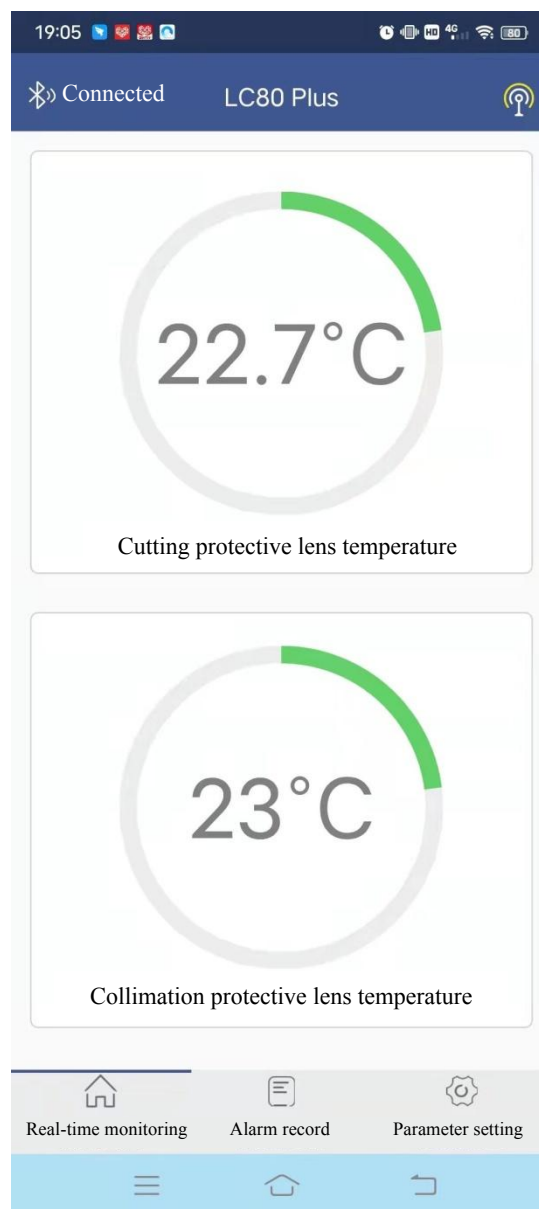

Figure 3.1
① After running the LC80 Plus APP, the progress bar color on the main interface will change according to the actual temperature value monitored, as shown in Figure 3.1.